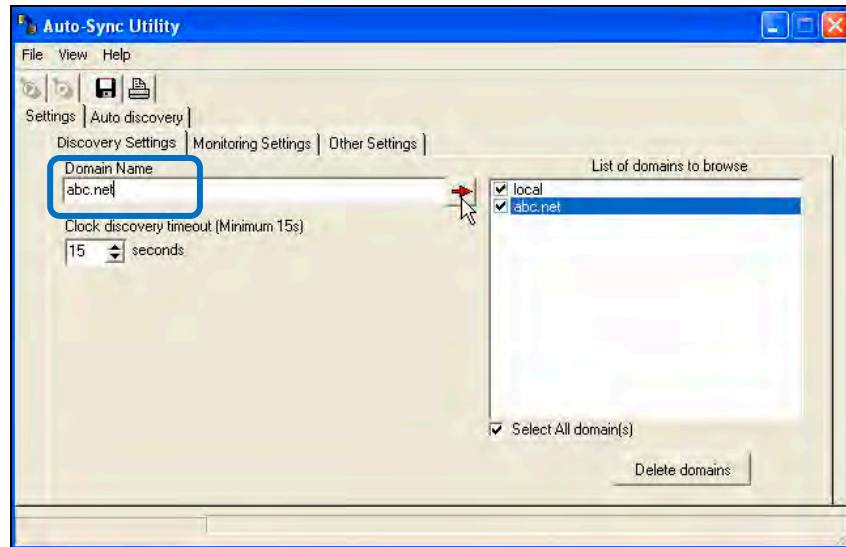

Figure 7-3. Discovery Settings.
3. In the Domain Name field, enter the domain name of your network and press the Red Arrow  button to load the Domain Name in the list on the right for discovery of all clocks in your companywide domain (see *Figure 7-3*). For example, the domain name of your companywide network might be "abc.net".